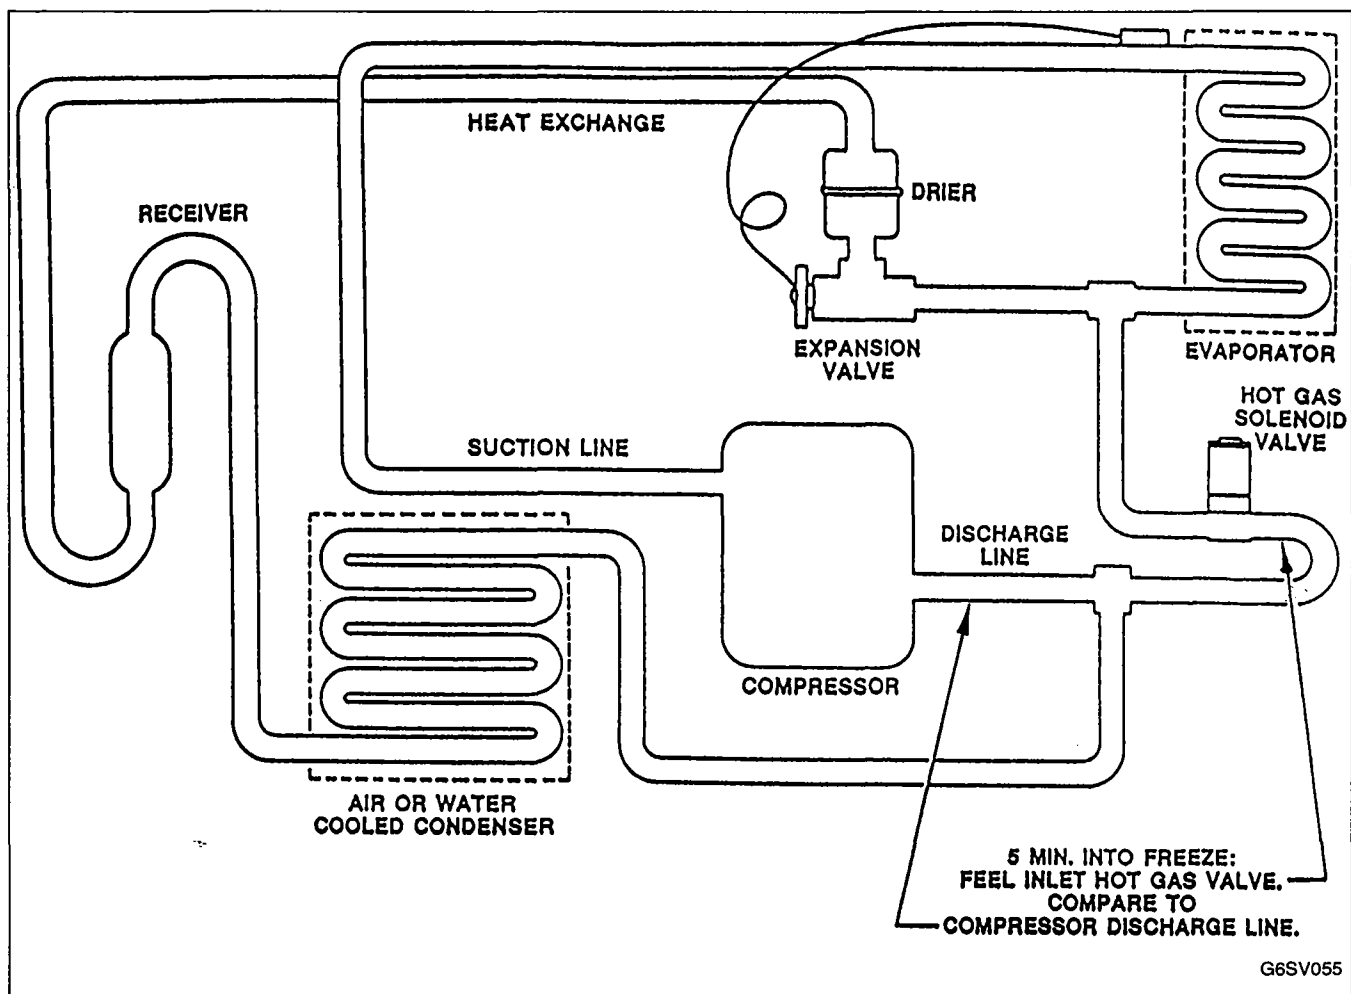

FIGURE 57. HOT GAS VALVE INLET FEEL CHECK
- 1) Feel **hot gas valve inlet**, Figure 57, page 60 after 5 minutes into freeze cycle.